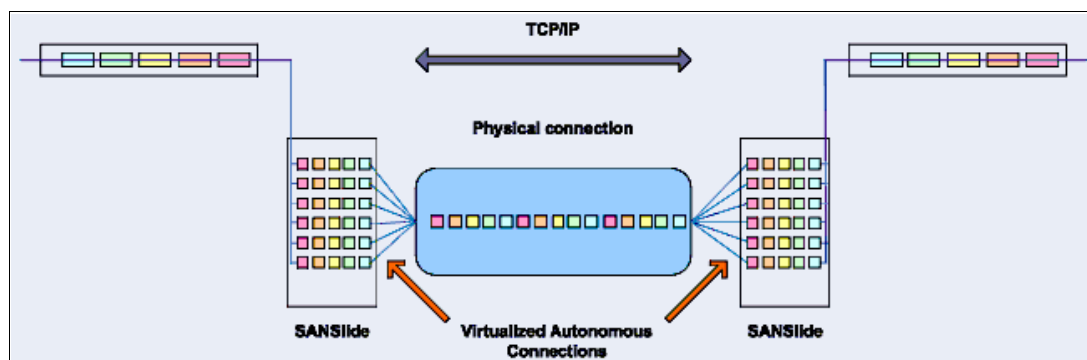

Figure 10-96 Optimized network data flow by using Bridgeworks SANSlide technology
However, by using the embedded IP replication, this behavior can be eliminated with the enhanced parallelism of the data flow by using multiple virtual connections (VC) that share IP links and addresses. The AI engine can dynamically adjust the number of VCs, receive window size, and packet size to maintain optimum performance. While the engine is waiting for one VC's ACK, it sends more packets across other VCs. If packets are lost from any VC, data is automatically retransmitted, as shown in Figure 10-96.